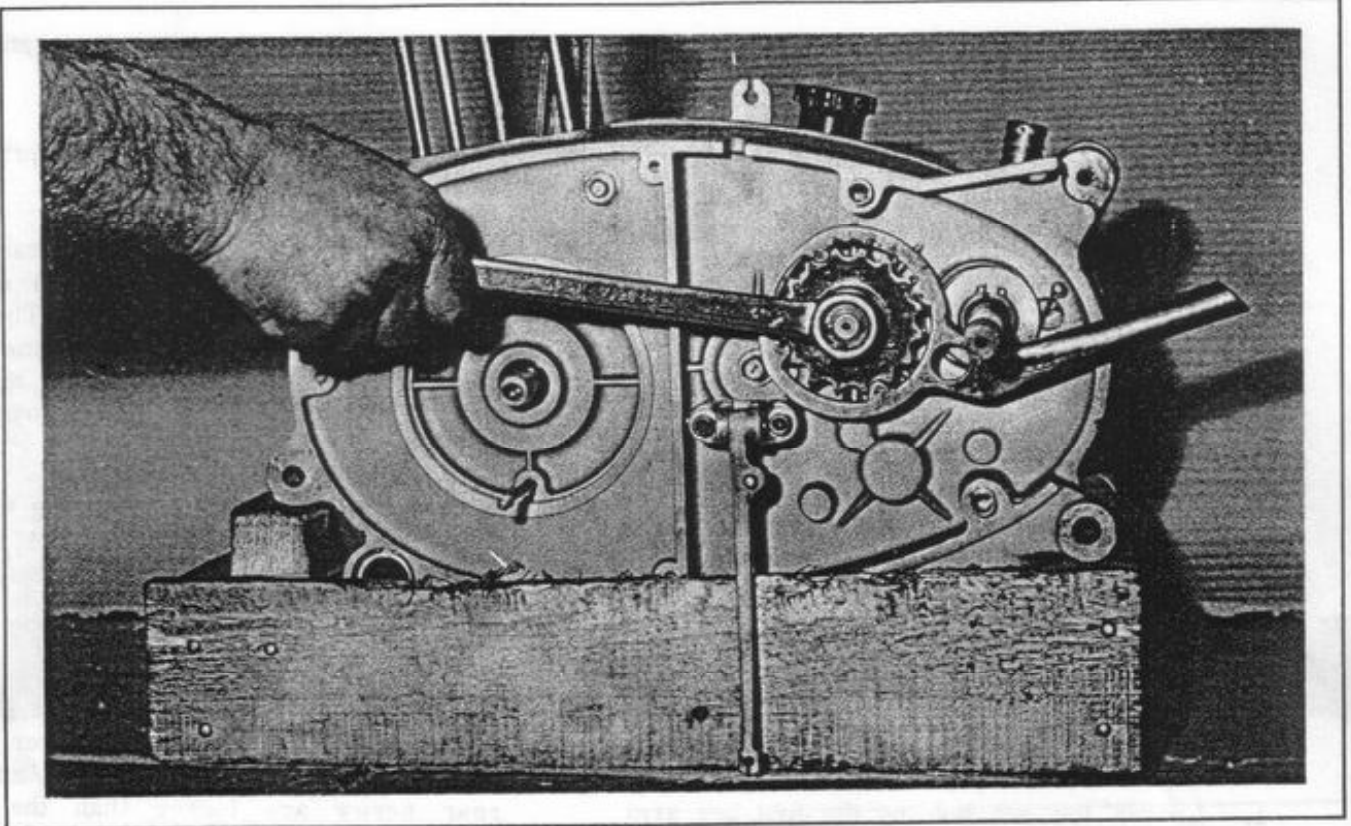

Figure 14.
2. Hold the sprocket with tool HH and take off the drive sprocket nut (19 mm.), reference 26 in exploded view T2 (Figure 14). On reassembly torque the sprocket nut to 36 foot pounds.